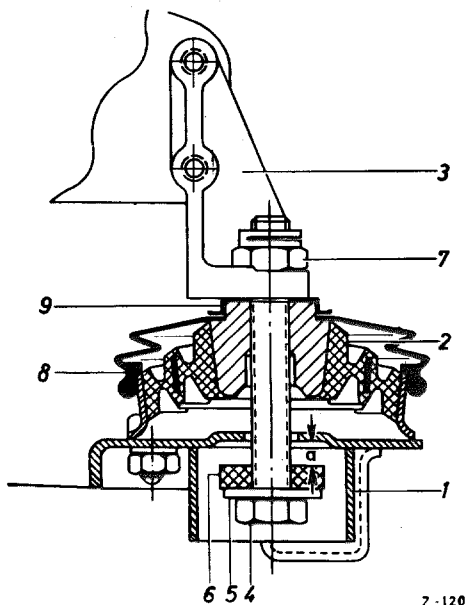

Fig. 01 — 1/7
18. Remove the left and right front engine mounting bolts; in doing so, hold the rubber mounting steady with Wrench SW 22 (see Fig. 01 — 1/9).